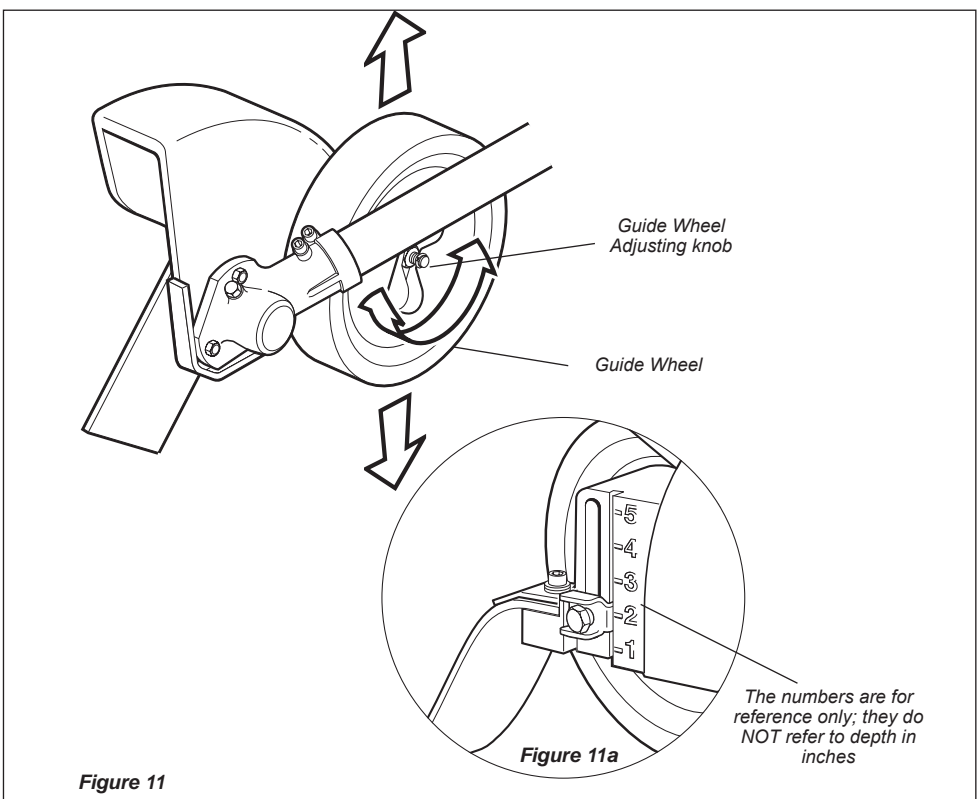

Figure 11
- Loosen the guide wheel adjusting knob. See Figure 11.
- Tighten the guide wheel adjusting knob firmly. See Figure 11.